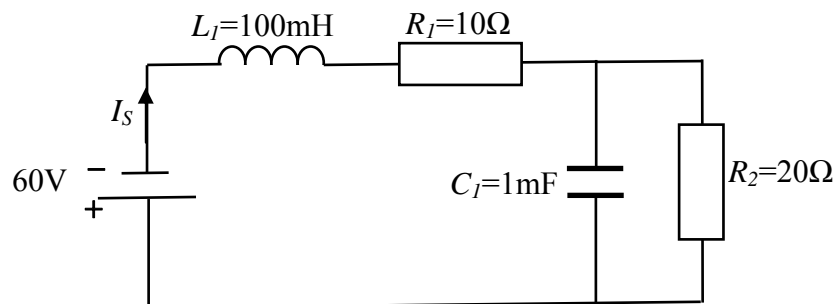
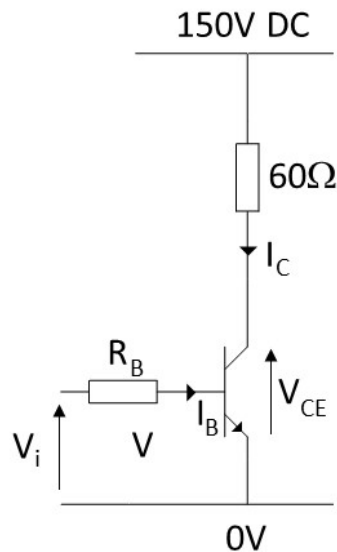
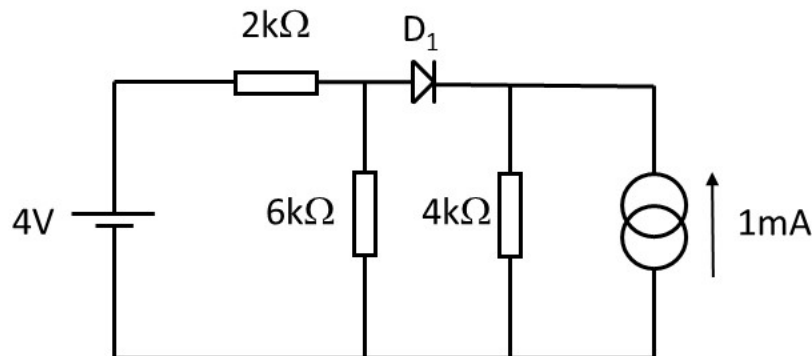

Figure 3.3
Figure 4.1 BJT transistor switching circuit
Figure 5.1 DC circuit containing diode D_1
- d. The network shown in Figure 3.3 has been connected for some time and has reached steady-state. Calculate:
- (i) The current I_S (2)
- (ii) The energy stored in L_I and C_I (2)
- (iii) The total power dissipated in the circuit (1)
4. Figure 4.1 shows a BJT transistor which is used as a switch to control a lamp, which can be regarded as a pure resistive load. The transistor has a static current gain h_{fe} of 125.
- a. For the case of the transistor being switched on and hence conducting current, calculate the load current and load power (you may assume that the voltage across the transistor (V_{ce}) in the 'on' state is \ll DC supply voltage). (4)
- b. Assuming that a typical value of the base-emitter voltage for a BJT (V_{BE}) is 0.7V, calculate the maximum value of the base resistor R_B which could be used to ensure that the switch is fully turned when supplied with an input voltage (V_i) of 5V. (6)
- c. Comment on why a smaller value of resistor than that calculated in part (b) might be adopted in practice. (2)
- d. When the BJT transistor in Figure 4.1 is fully turned on and conducting the load current calculated in part (a), the voltage across the device (V_{ce}) is 1.15V. Calculate the power loss in the BJT transistor for this operating condition. (3)
- e. In order to reduce the power loss in the switch, the manufacturer plans to replace the BJT transistor with a MOSFET transistor. Calculate the maximum allowable value of the on-state resistance of this MOSFET in order for it to demonstrate an efficiency benefit over the BJT option. (3)
- f. List another benefit of using a MOSFET as the switch element. (2)
- a. Using appropriate calculations, determine whether the diode D_1 in Figure 5.1 is conducting current. (7)